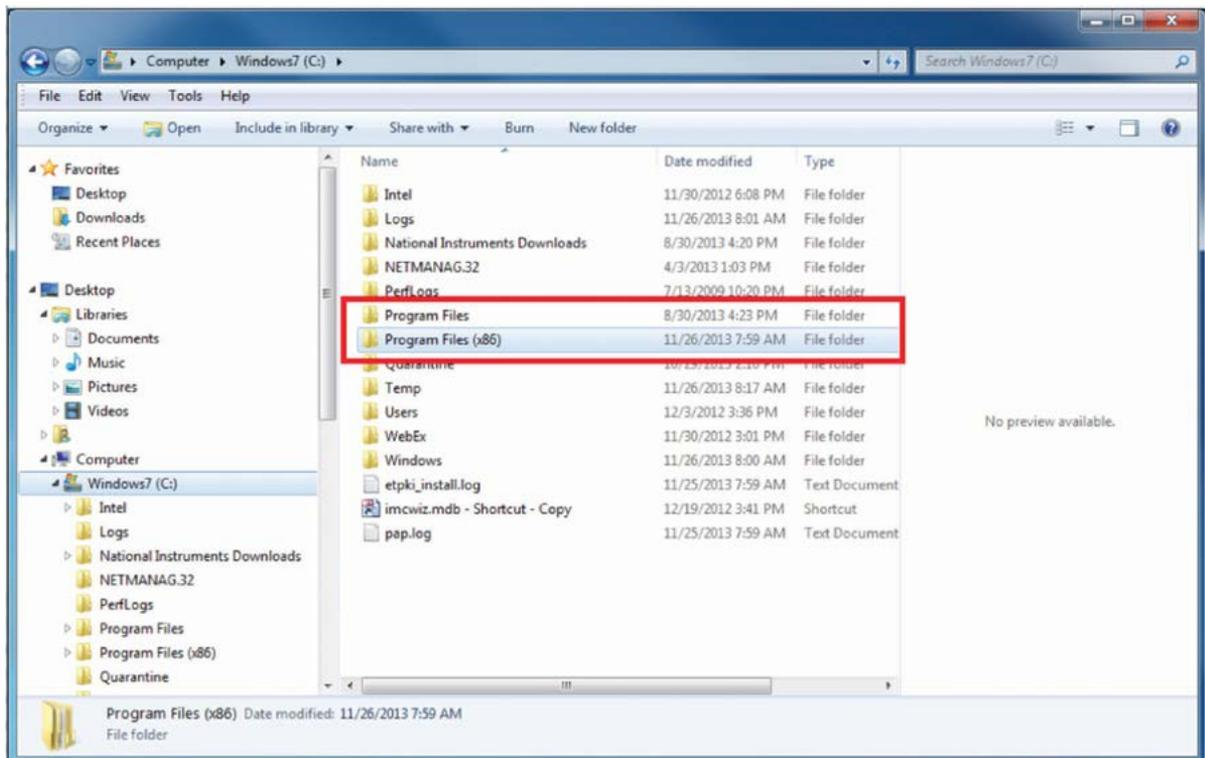

Figure 11: Find "Program Files"
11. Open the computer's C: Drive. Search and open the folder entitled "Program Files (x86)". If not present, open the folder entitled "Program Files" as shown in **Figure 11**.